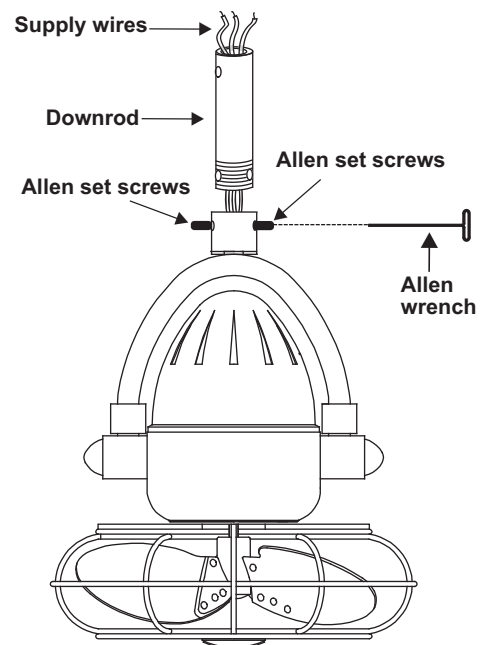

Figure 8
6. Loosen the two set screws from the top coupling of the motor assembly. (Fig. 8)
7. Carefully feed the fan wires up through the down rod. Thread the down rod into the coupling then tighten the set screws using the Allen wrench.(Fig. 8) Carefully reinstall hanger ball onto rod being sure that cross pin is in correct position, the set screw on hanger ball is tight and wires are not twisted.